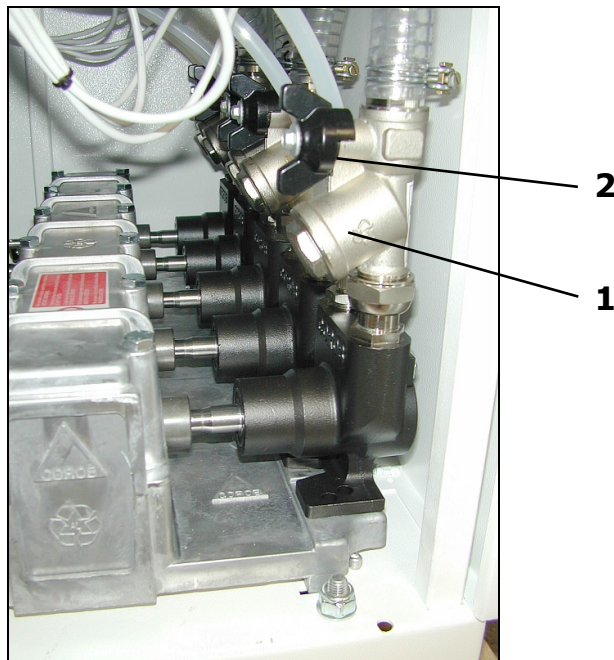

Figure 8-3
*The flow rate and precision of the machine could be jeopardized by excess residue in the colorant, trapped in the pump filters (1) (Figure 8-3).*
*Filter clogging could reduce the machine flow rate, leading to imprecise dispensing (Figure 8-3).*
3. Close all of the taps (2), located above the pumps, to stop the flow of colorant (Figure 8-3).